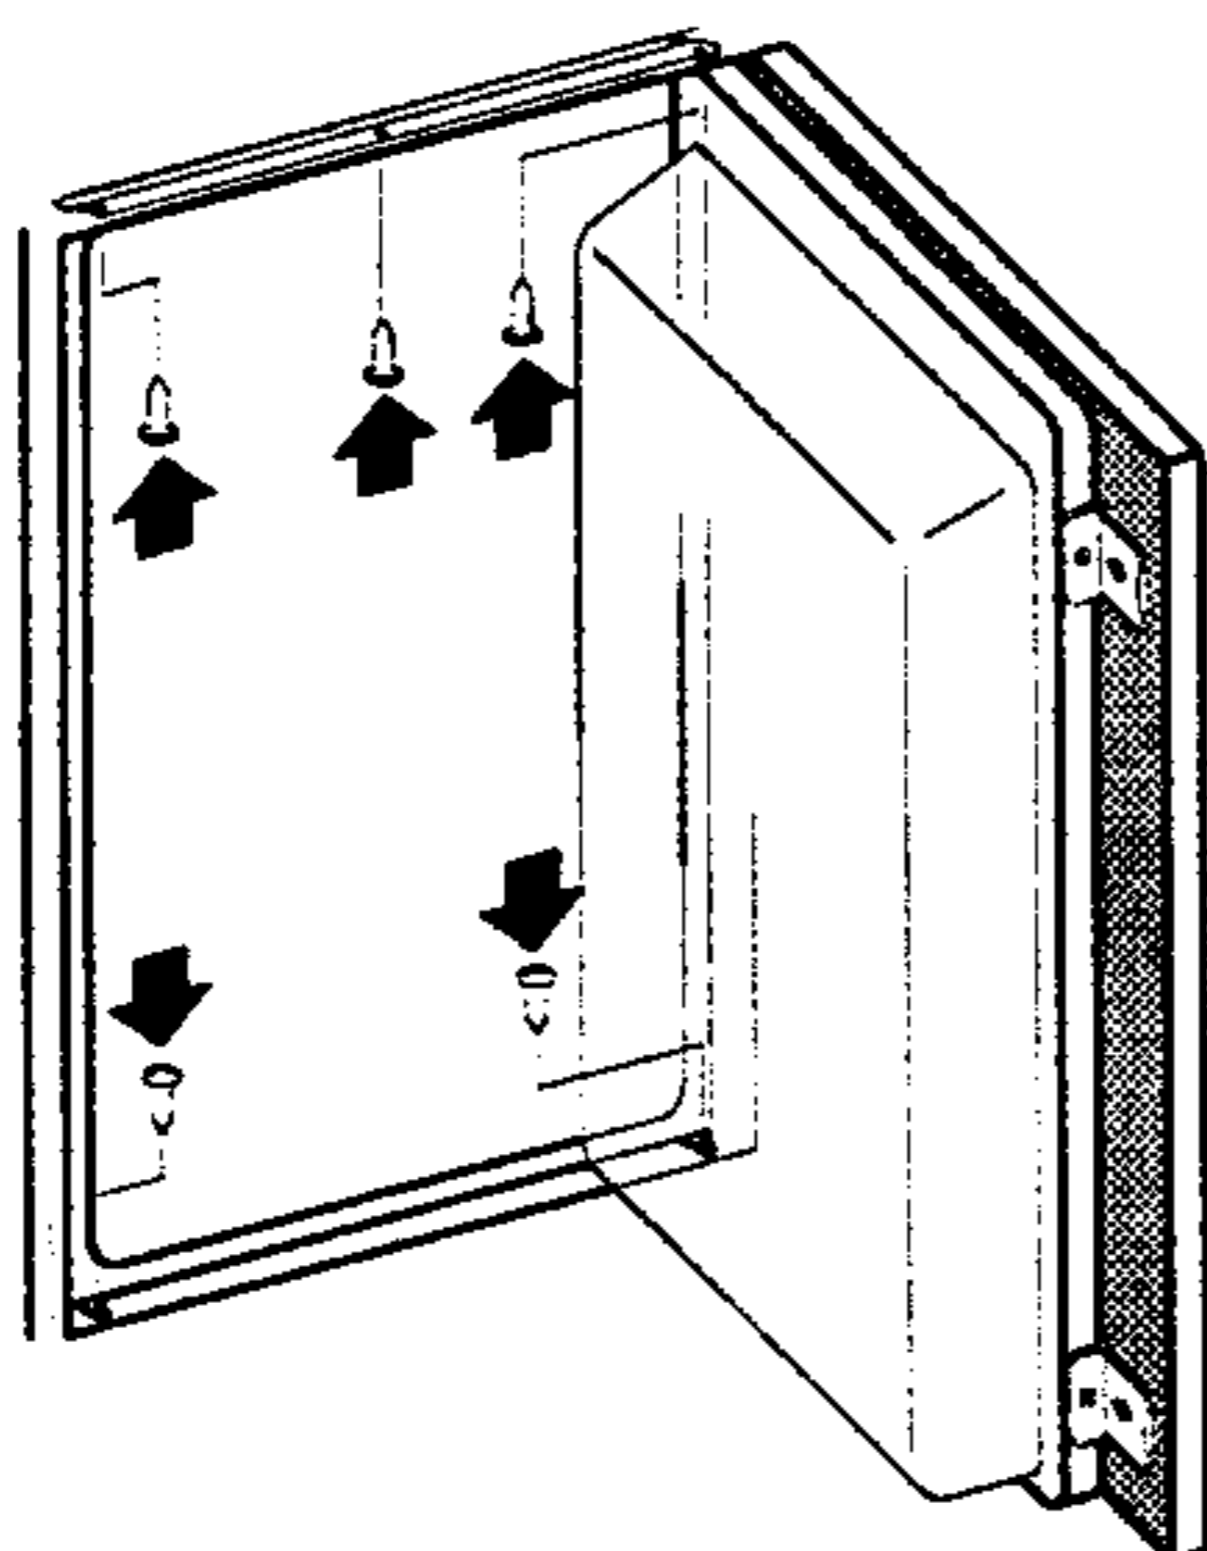

Fig. 5
- Fix the appliance into the kitchen unit. On the upper side, fix the three screws through the rail (A 4 x 12) and on the bottom side with two screws, through the lower hinges (A 4 x 16). Drill holes,  $\varnothing$  3 x 5 (Fig. 5).